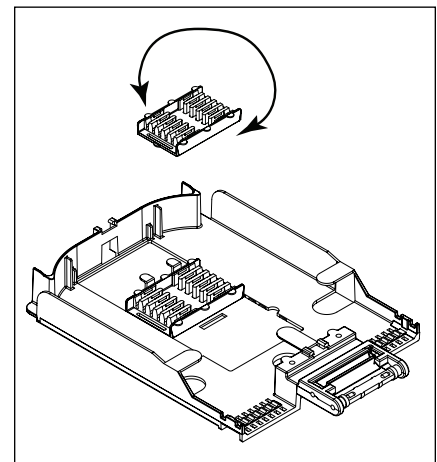

Figure 5
- Rotate filled module 1 one complete turn (Figure 5, see arrows) and snap into ribbon tray. This will create a twist on each ribbon and allow them to lie more neatly in the tray.